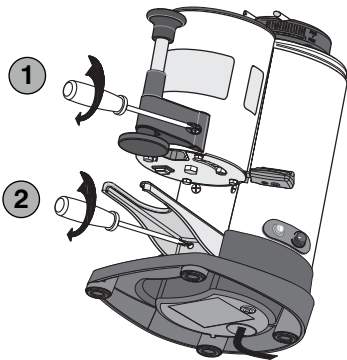

Fig. 11
- 5** Correctly tighten the retaining screws of both the telescopic press (1, Fig. 11) and the new fork (2, Fig. 11).